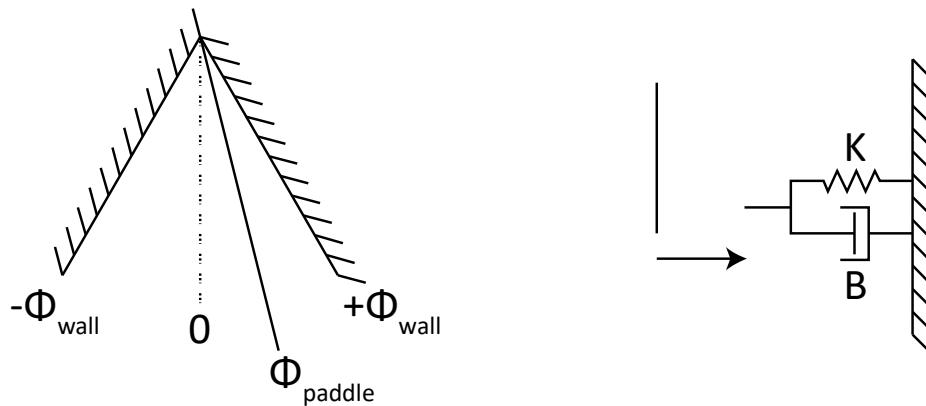

Figure 1: virtual wall angular range (left), and physical modelling (right)
- Design and implement two virtual walls, applying a viscoelastic (a spring with a damper) behavior once the paddle reaches $\Phi_{wall} = \pm 15^\circ$ (see Figure 1).